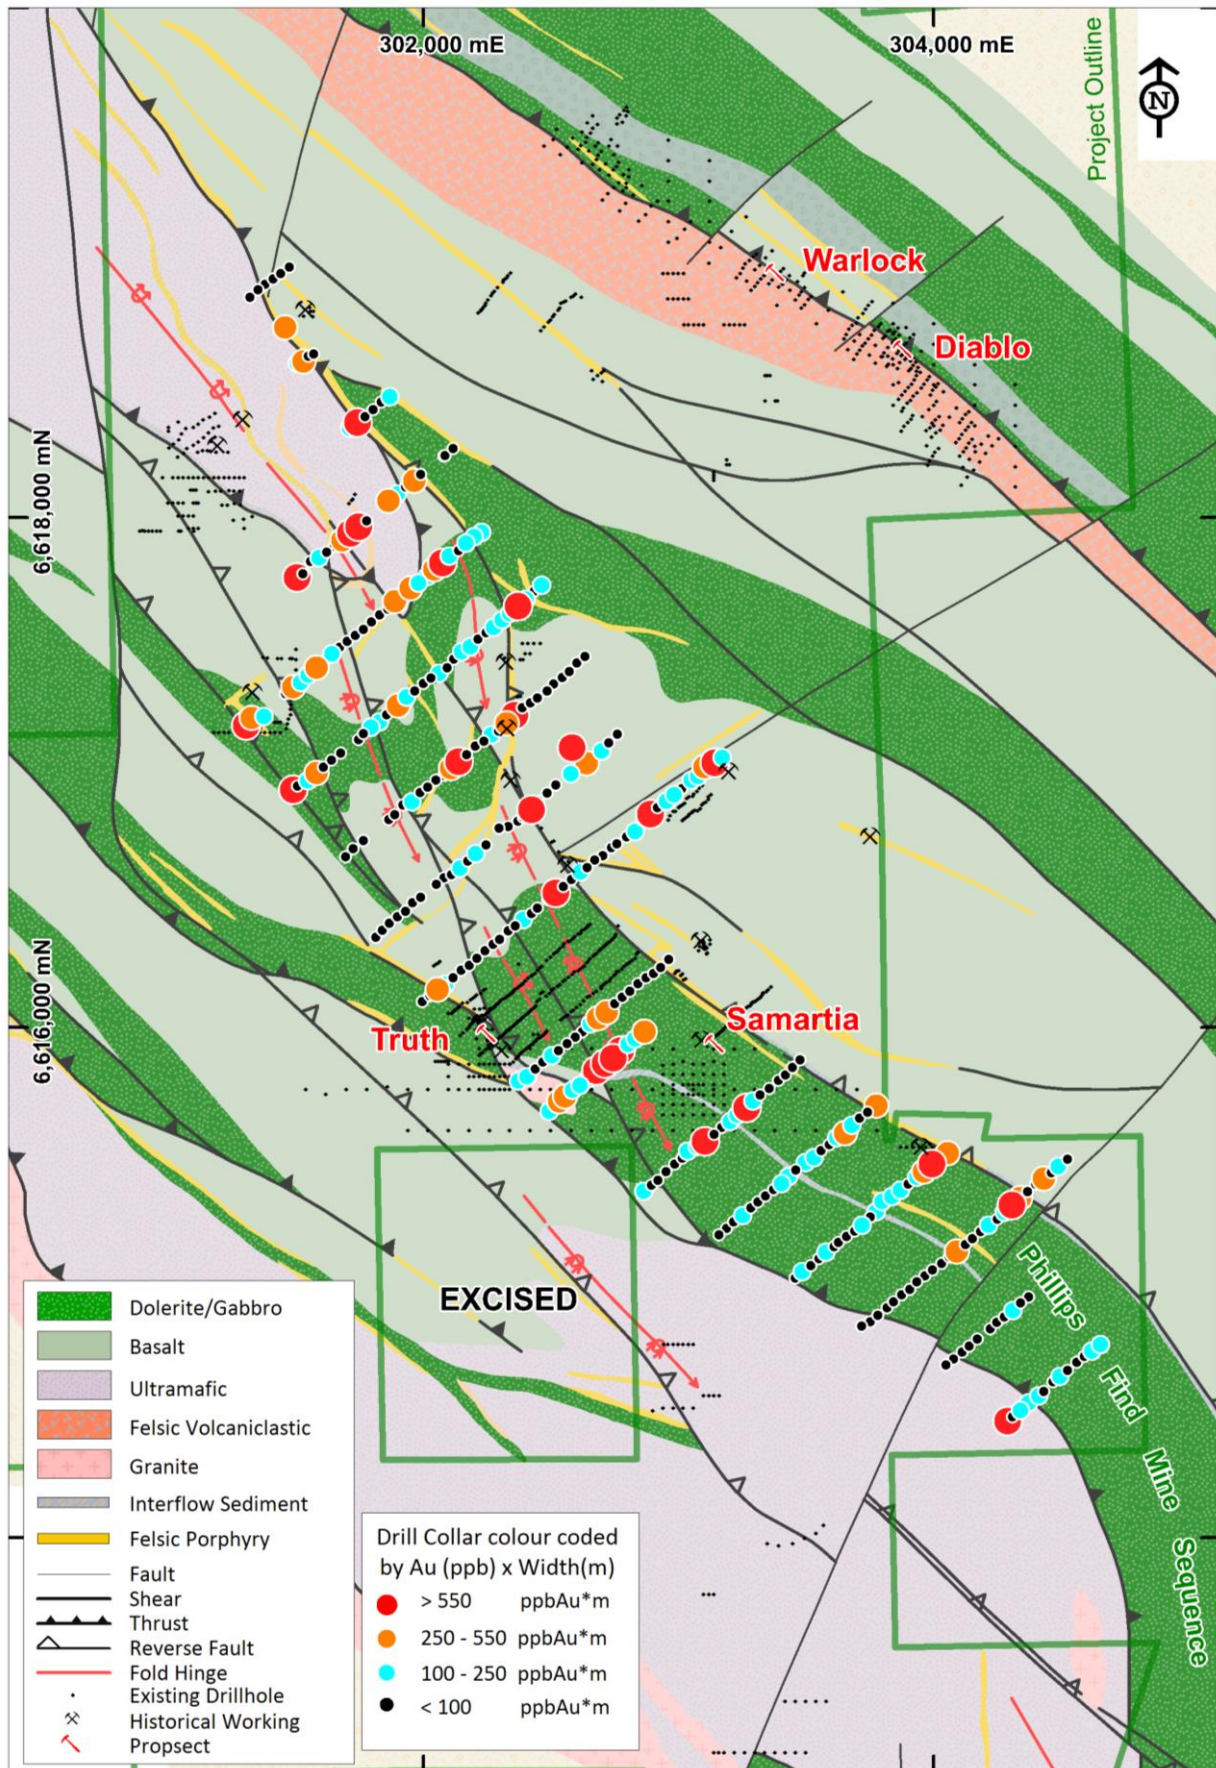

Figure 2 – AC drilling anomalism over bedrock geology and structural interpretation
The AC drilling program, designed to be a broad spaced first pass test of the 6km x 1.5km Truth target area, successfully intersected multiple zones of low-level gold anomalism over the target area as shown on Figure 2.
Several trends were defined parallel to and associated with weathered bedrock structures along the strike extension of the Phillips Find Mine Sequence geology (Figure 2,3). The Phillips Find Mine Sequence hosts three open-pit mines at the Phillips Find Mining Centre (PFMC), which has produced a combined 33,000oz of gold to-date. Several new targets have now been identified along strike of the PFMC which now require prioritisation before further follow-up infill AC drilling and testing for mineralisation at depth with Reverse Circulation (RC) drilling.
Results > 250 ppb x m shown. Results < 250 ppb x m illustrated on Figure 2 as black dots. Intersection calculated on +12ppb Au over intersection width. Maximum internal dilution of 4m waste b/w values of +12ppb Au. 1000 ppb = 1.0 g/t. Northing/Easting are GDA94, Zone 51. Northing, Easting, Depth, From, To and Width are in metres. Dip and Azim are in degrees.